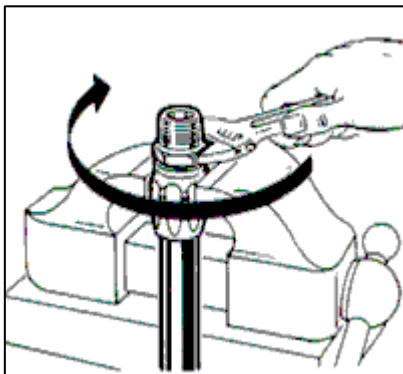

Figure 7.0
**Step 6:** Clamp the assembly by the outer ferrule sleeve back into the bench vice and fully tighten the nipple and ferrule together. Figure 7.0